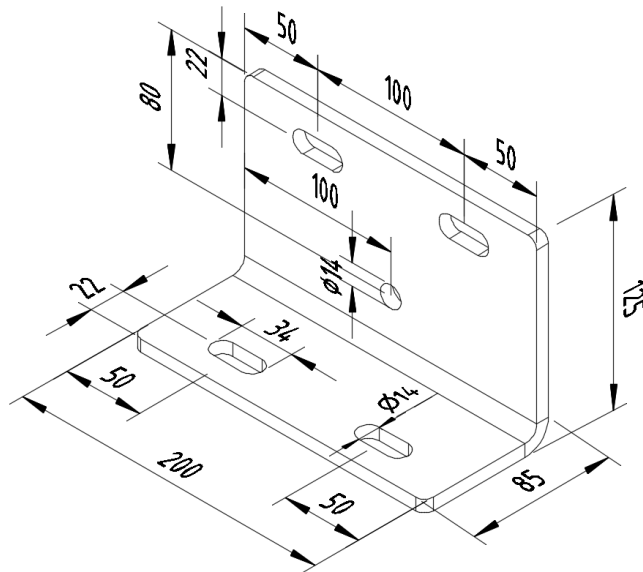
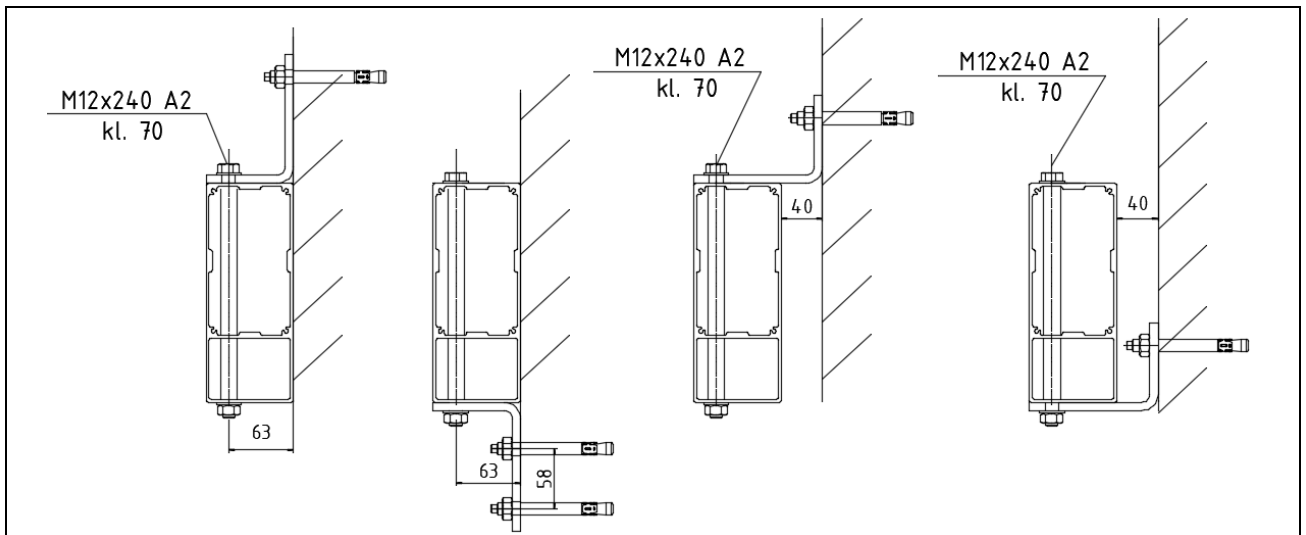

Figure 57 – Universal wall bracket (2 possible settings)
Figure 58 - Universal wall bracket – acceptable installation methods
Wall brackets in the form of universal angle steel brackets (fig. 57). Permissible assembly methods according to Fig. 58. Forbidden installation methods according to Fig. 59.
**NOTE:** When determining the holes for the wall bracket, take into account the selected positioning of the wall bracket (fig. 58). The embedding must be carried out in the bearing substrate.